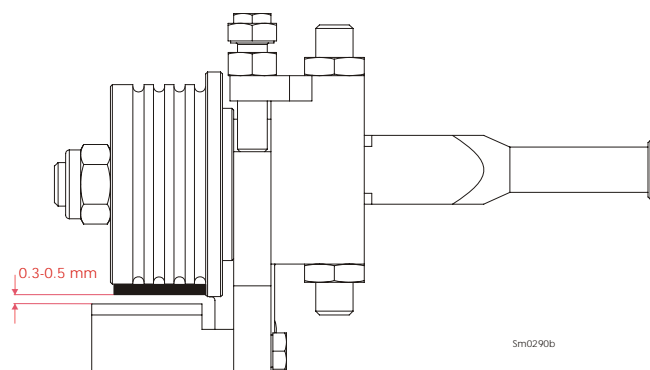

FIG. 5-19
**See Figure 5-19.** The gap between the disc and the blade should measure 0.3 - 0.5 mm.